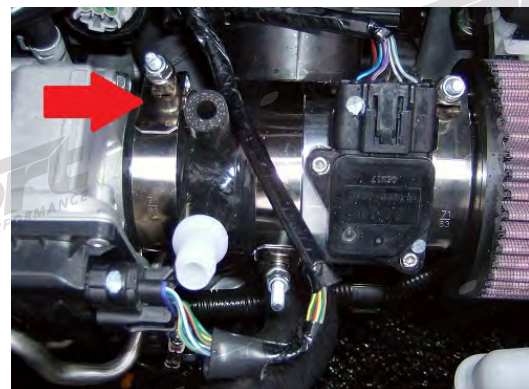

Figure 8
A) Install the silicone coupler and 2.75" T-Bolt Band Clamp over the throttle body and tighten the band clamp until snug (See Figure 8 on right). Test to ensure that all three band clamp connections are firmly connected and cannot be pulled apart by hand. If you can pull any of the connections apart, reseal them and tighten the band clamp nut down 1-2 more turns and test it again. The entire assembly should be tight and not come apart when pressure is applied.